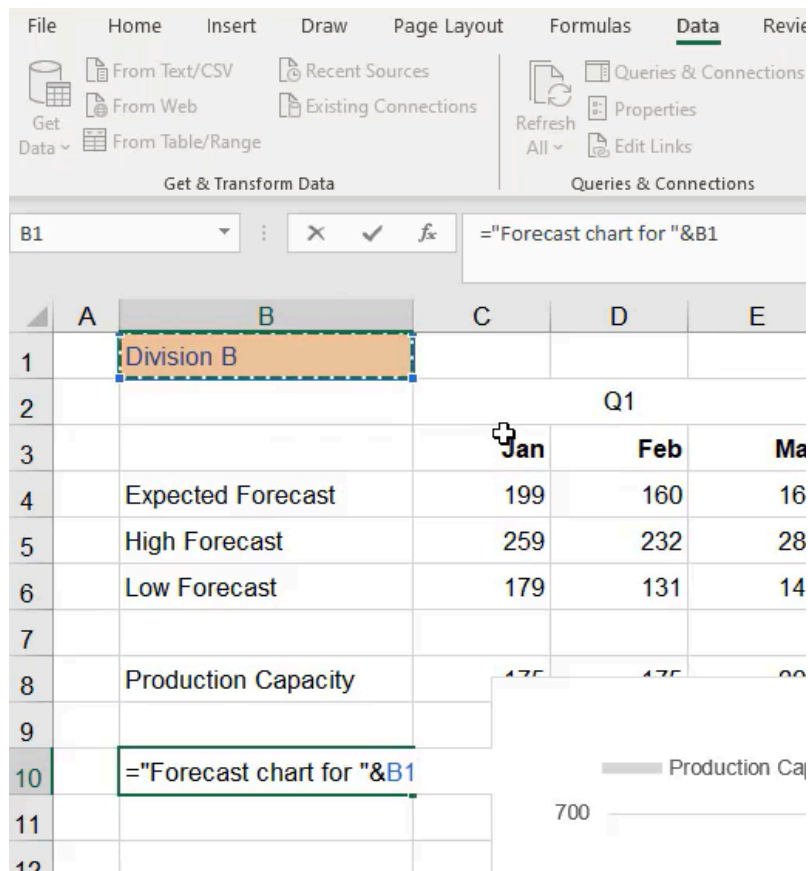

Figure 37.21
- a. Use the ampersand to combine the name of the division. (See **Figure 37.21**)